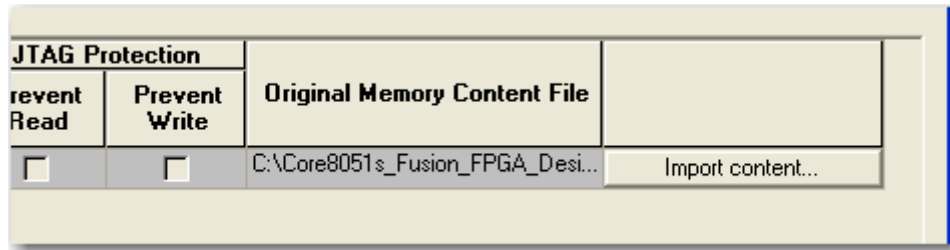

Figure 2-6 · Click this Button to Import the *.ihx File
- Click the **Import content** button for the block content (Figure 2-6 on page 21). Navigate to the Tutorial_Files folder and click the *.ihx file. Click **Import**. Click **OK** to close the Modify Embedded Flash Memory Block box.